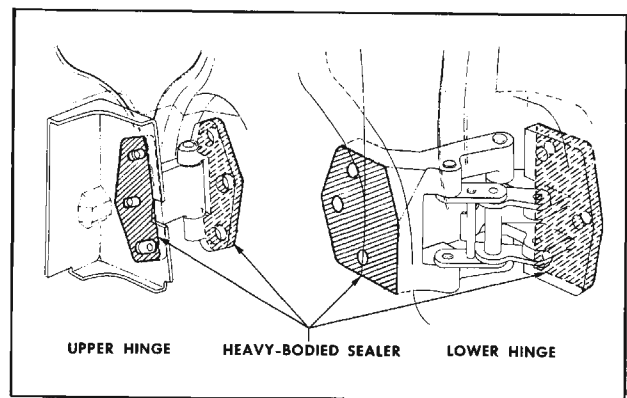

Fig. 16-51 Rear Door Hinge Anti-Squeak Sealing
2. Apply a coat of heavy-bodied sealer to attaching surfaces of hinge straps or corresponding surfaces of door or body. (Fig. 16-51)